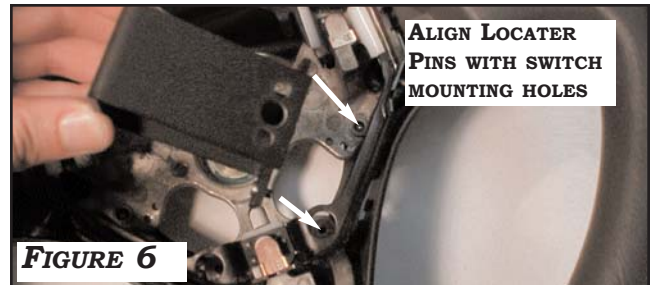

FIGURE 6
4. USING THE **SWITCH HOLE CUTTING TEMPLATE, 250-2599**, PLACE THE LOCATER TABS INTO OE CRUISE SWITCH MOUNTING HOLES AND DRILL ONE (1) **5MM (13/64")** HOLE AND TWO (2) **8MM (11/32")**. **FIGURES 6 & 7**
7. MOUNT CRUISE CONTROL SWITCH WITH TWO (2) TORX 15 SCREWS PROVIDED. REMOVE GROUND TERMINAL AND DUMMY HORN/CRUISE CONNECTOR FROM STEERING WHEEL AND DIS CARD. PLUG IN CRUISE SWITCH CONNECTOR ENSURING TO RECONNECT GROUND TERMINAL. **FIGURE 6 & 12**